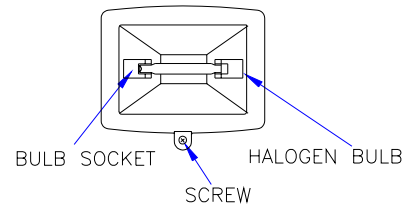

FIGURE 7
- Unscrew the screw at the bottom of floodlight (FIGURE 7).